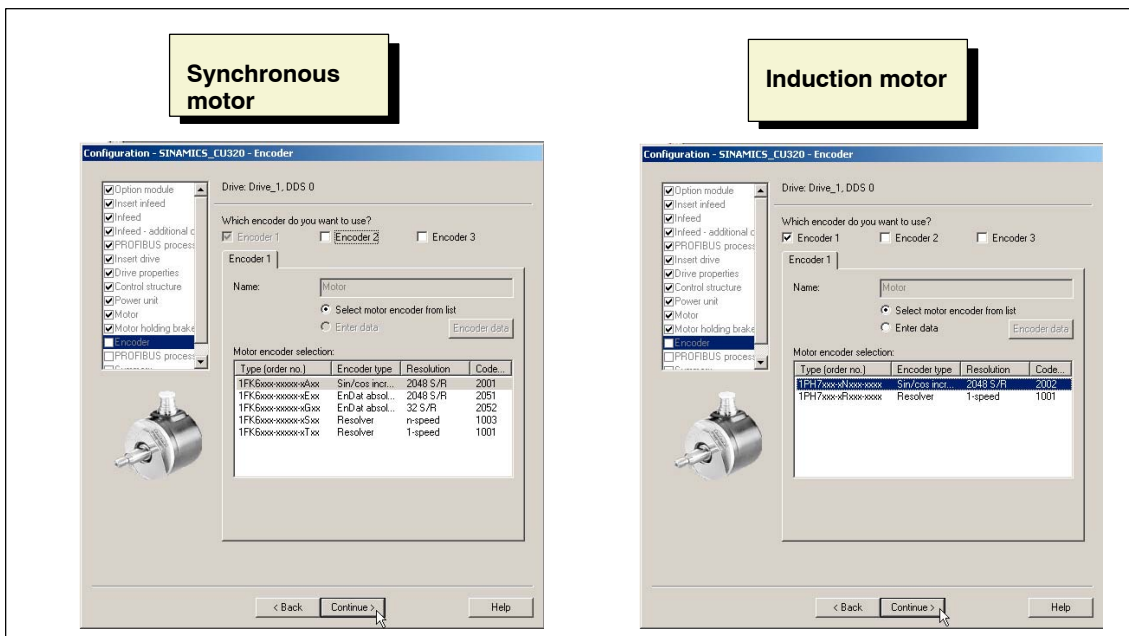

Fig. 3-28 Encoder configuration
21. Choose **Without holding brake** and click **Continue** > to select the encoder fitted to the motor (see Fig. 3-28).